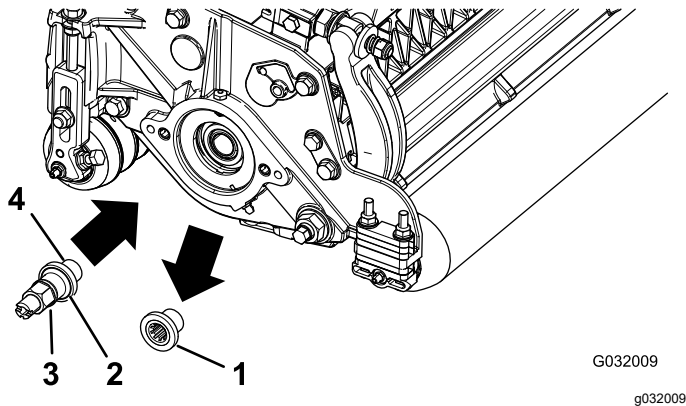

Figure 2
2. Remove and discard the cutting-unit threaded insert for the rear-roller-brush drive (Figure 2).
4. Apply thread-locking compound to the driveshaft threads (Figure 2) and install either the left or right driveshaft, torquing it to 115 to 128 N·m (85 to 95 ft-lb).